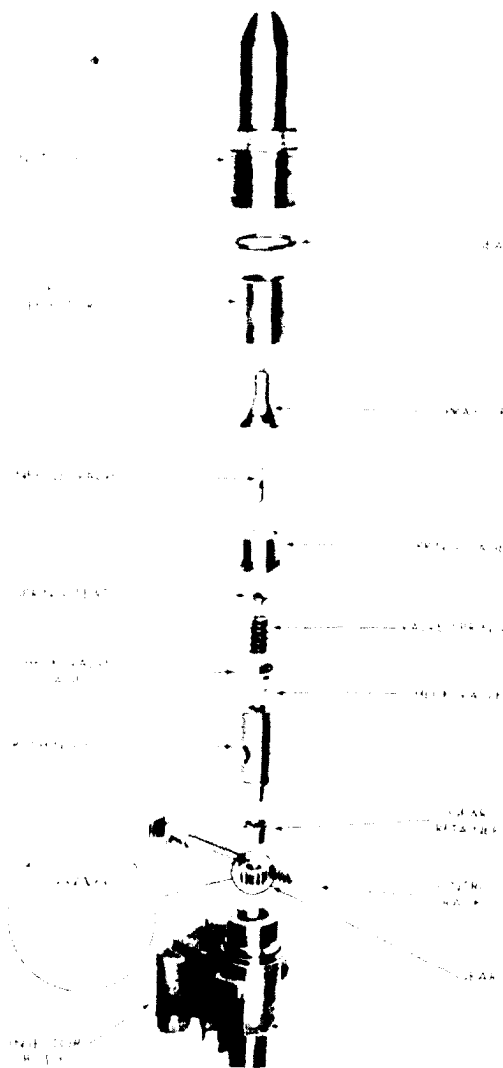

Figure 11C-36. Detailed Parts of Injector
7. Insert the needle valve, tapered end down, inside of the spray tip (see Figure 11C-3 on page 11C-2). Then place the spray tip and needle valve on top of the spring cage with the quill end of the needle valve in the hole in the spring cage.
8. Lubricate the threads in the injector nut and carefully thread the nut on the injector body by hand. Rotate the spray tip between your thumb and first finger while threading the nut on the injector body (see Figure 11C-38 on page 11C-22). Tighten the nut as tight as possible by hand. At this point there should be sufficient force on the spray tip to make it impossible to turn with your fingers.
9. Use socket J 4983-01 and a torque wrench to tighten the injector nut to 75-85 lb-ft (102-115 Nm) torque, as shown in Figure 11C-39 on page 11C-23.